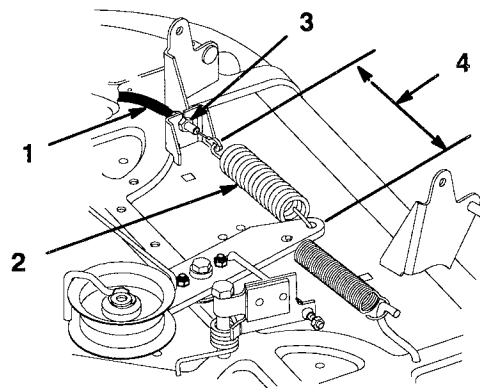

Figure 46
12. Engage blade control (PTO) lever on dash. Measure distance between hook ends of idler spring (Fig. 46). Adjust jam nuts so 6" (150 mm) dimension is obtained (Fig. 46).